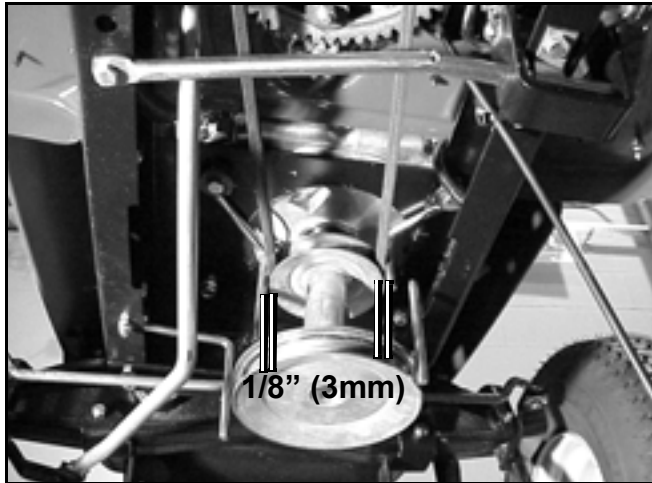

Figure 152
- Adjust and tighten both the right and left engine belt guides. They should be adjusted so they are within 1/8" (3mm) of the engine pulley (Figure 152).